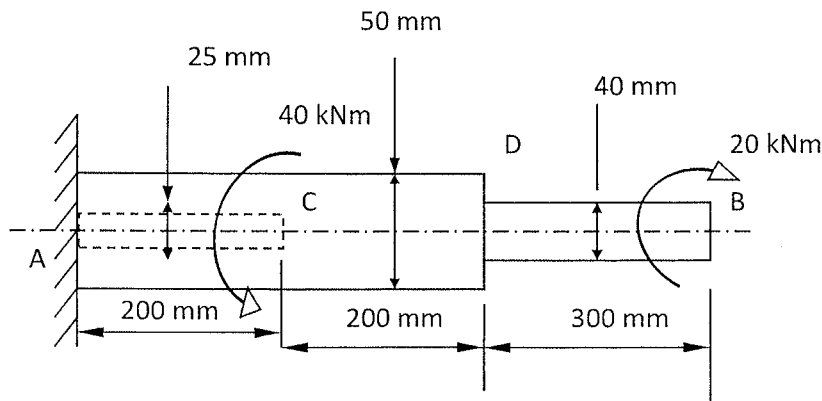

Figure Q1
2. This question paper consists of **five (5)** questions in **four (4)** pages.
- (b) Figure Q1 shows a stepped shaft fixed at A, with 40 kNm torque applied at C and 20 kNm at the free end B. Length AC has a recess with a 25 mm diameter. AC = 200 mm, CD = 200 mm, and DB = 300 mm. The diameters of AD and DB are 50 mm and 40 mm, respectively. The shaft made of aluminium has a modulus of Rigidity $G = 30 \text{ GPa}$.